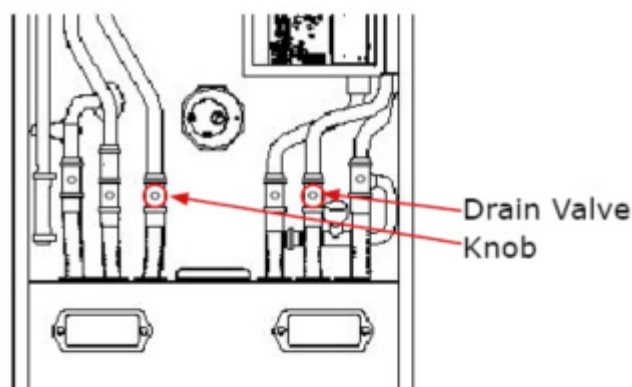

Fig. 31 : Drain Valve Knob
4. Loosen the highlighted drain valve knobs shown in Fig. 31 and use a wet vacuum cleaner to remove the water in the pipework.